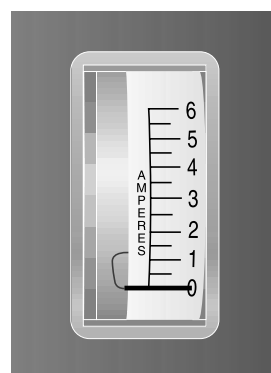

FIGURE 12. AMMETER INDICATES BATTERY IS FULLY CHARGED
You can also check the charge by the ammeter, located on the electronics module. The charger power lead must be plugged into a standard wall outlet in order to obtain a reading. When the amperage reading is at or near zero (0) amps, charging is complete. See figure 12.